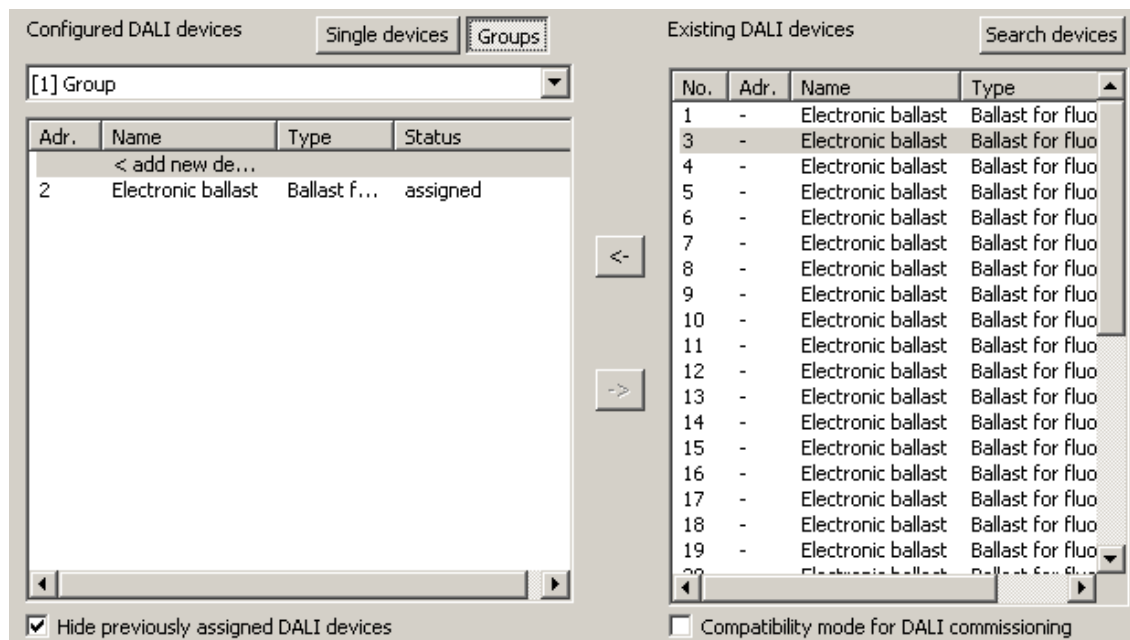

Figure 64: Operating device assigned to a group
- If new single devices are to be created (e.g. in empty groups), assign one or more found DALI operating devices using "<->" or "Drag and Drop" with the mouse. If an assignment is to take place to available free single devices, first highlight these in the left pane and then assign them using "<->" or, alternatively, using "Drag and Drop" with the mouse. In the right-hand section, the assigned operating devices disappear from the list box and appear in the left-hand section for the selected group (Figure 64). The right-hand pane contains only the remaining operating devices, which are not yet assigned to a group.